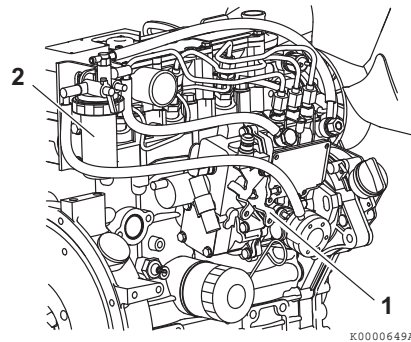

Figure 2
1. Operate the fuel priming lever (**Figure 2, (1)**) several times until the fuel filter cup (**Figure 2, (2)**) is filled with fuel.